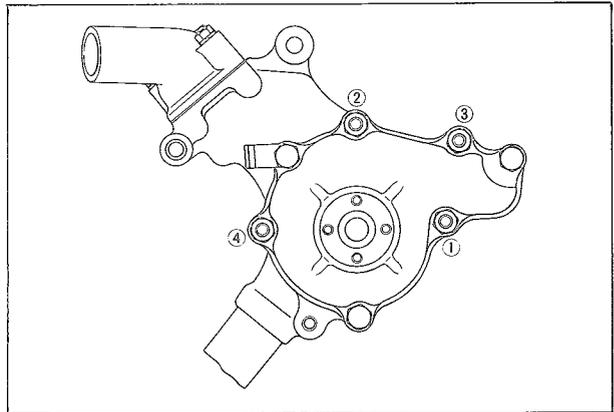

Fig. 1-90 Tightening order of water pump
2. Place the gaskets and water pump on the front housing, and tighten the attaching nuts evenly to 1.8 ~ 2.7 m-kg (13 ~ 20 ft-lb) in the sequence shown in Fig. 1-90.